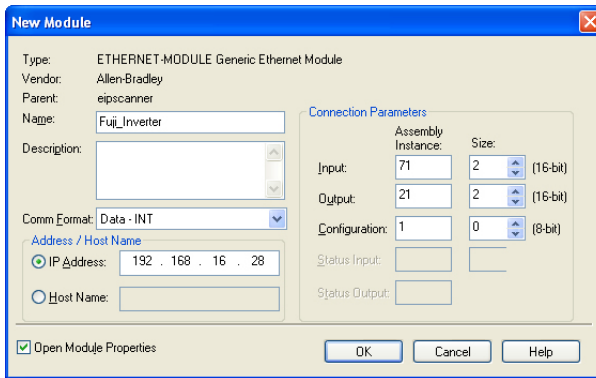

Figure 90: AC/DC Drive Profile Generic Ethernet Module Configuration
- 1) Complete all the steps in section 8.2.3. Please note that the Assembly Input Instance must be changed to 71 and the Assembly Output Instance must be changed to 21. Refer to Figure 90.